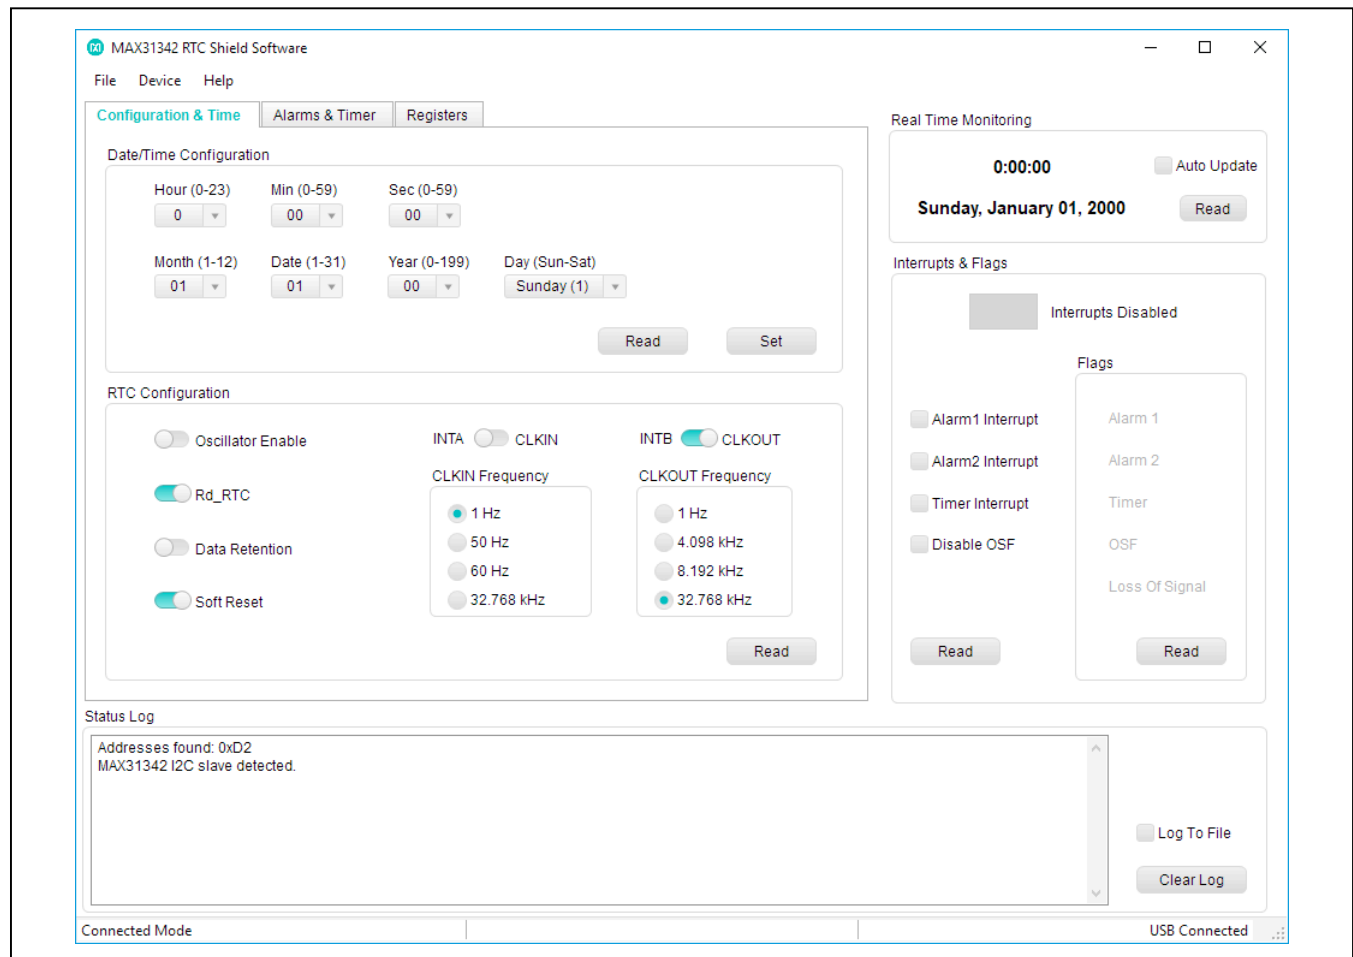

Figure 2. MAX31342 RTC Shield Software-Configuration and Time Tab
- 6) Open the MAX31342 RTC Shield software. Configuration and Time tab will be shown Figure 2.